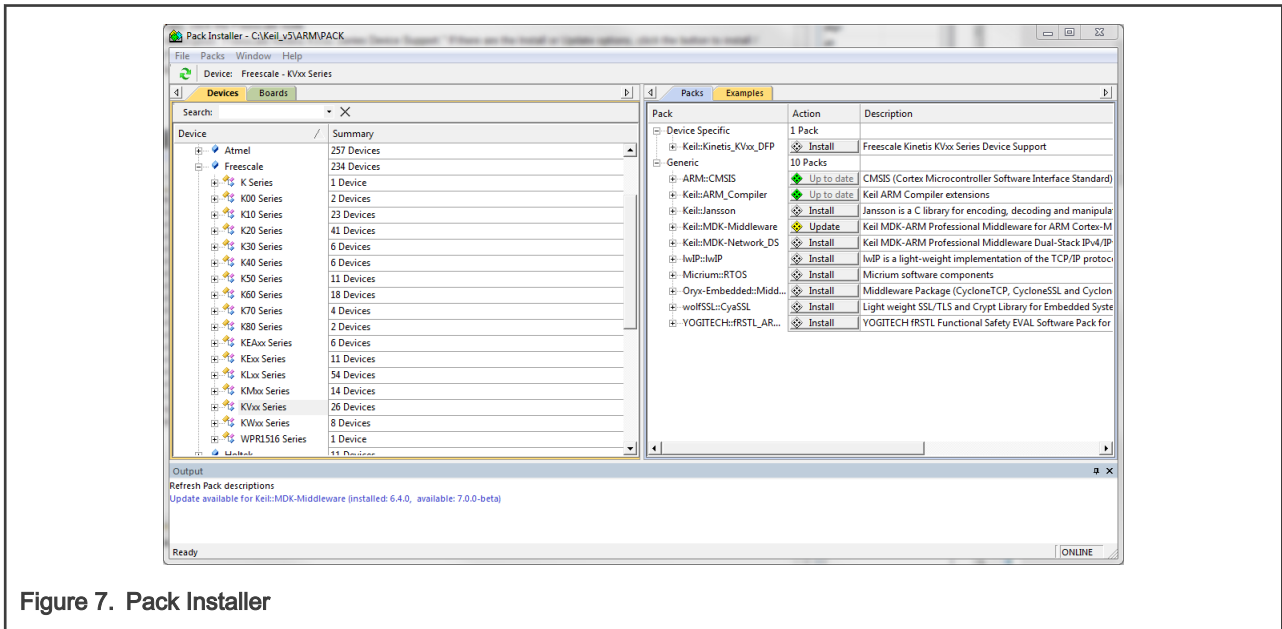

Figure 7. Pack Installer
- Look for a node called "Keil::Kinetis\_KVxx\_DFP." If there are the Install or Update options, click the button to install/update the package. See Figure 7.